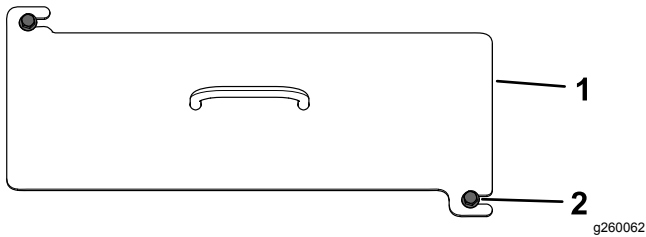

Figure 42
2. Loosen the 2 bolts (Figure 42).